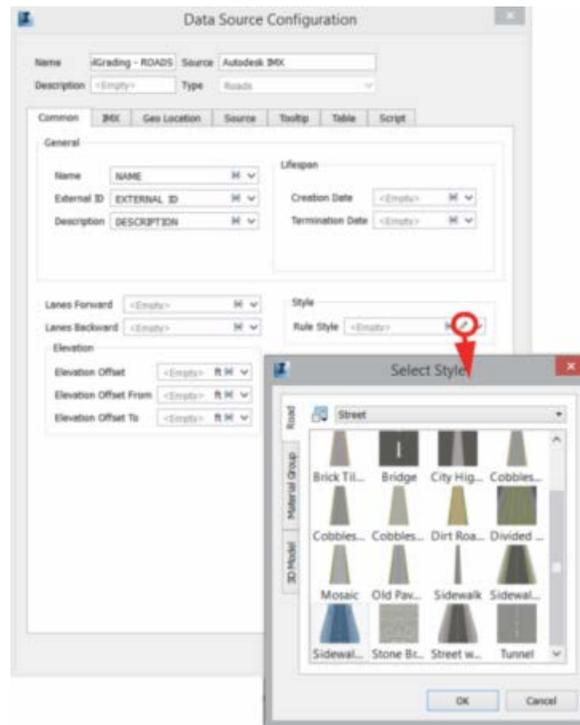

Figure 33
- **Alignments and Profiles:** Alignments and profiles are combined into one road feature. They are assigned a road style in the Data Source Configuration dialog box in the Common tab, in the Style area. Any alignments and profiles that are used to create a corridor model are imported separately. For any alignments that are not associated with a corridor model, you can set the style in the Common tab, in the Data Source Configuration dialog box, as shown in Figure 33.